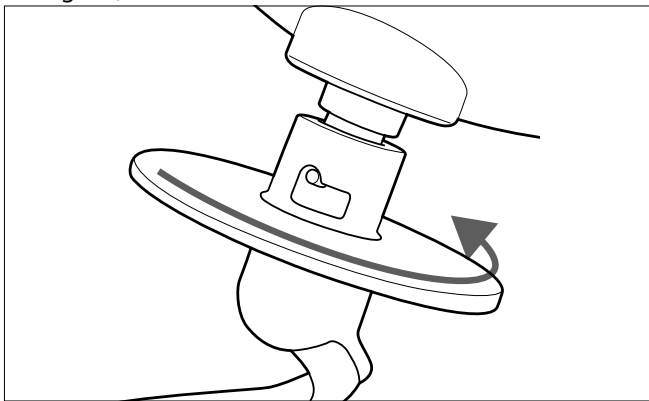

Fig. 10 – Securing stirrer
- ▶ Push the stirrer up and turn it clockwise until it engages. A stirrer can only be inserted and turned correctly if the guide nose is in the corresponding guide slot (see Fig. 10).